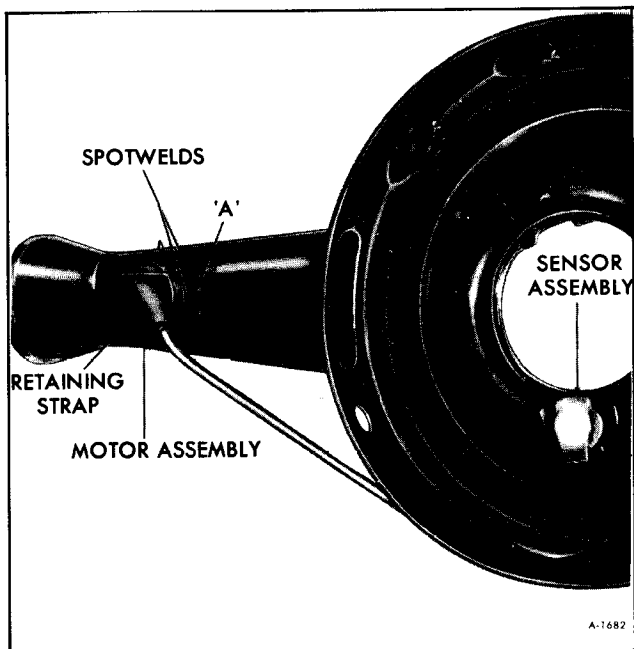

Figure 6—Air Cleaner Spot Welds
3. Drill out the two spot welds initially with a 1/16" drill, then enlarge as required to remove the retaining strap. Do not damage the snorkel tube (See figure 6.).
1. Drill a 7/64" hole in snorkel tube at point "A" as shown in Figure 6.